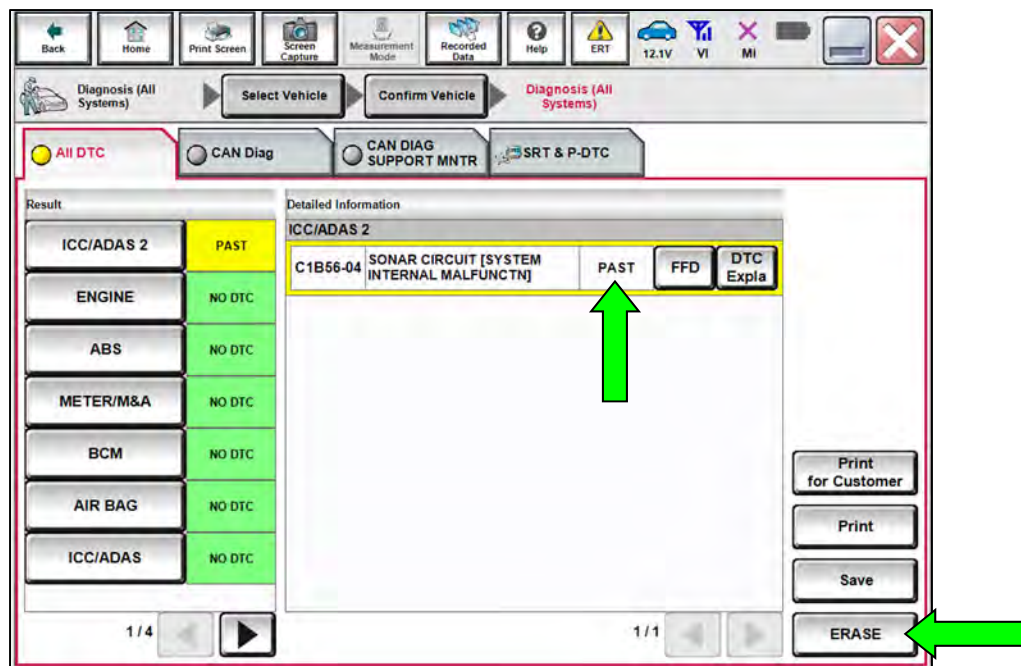

Figure 38
68. Confirm DTC C1B56-04 is displayed as **PAST** (not **CRNT**) (Figure 38).